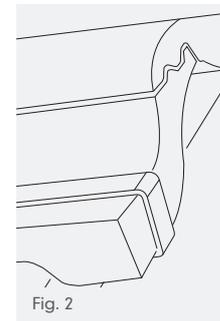

Fig. 2
- 4 Secure any small cut pieces of tile to adjacent large tile by means of the special head clip (supplied in the fixing kit) and ensure they are fully supported at hip intersection. Ensure orientation of clip is such that end of throat is flush with cut tile (Figs. 2 and 3).